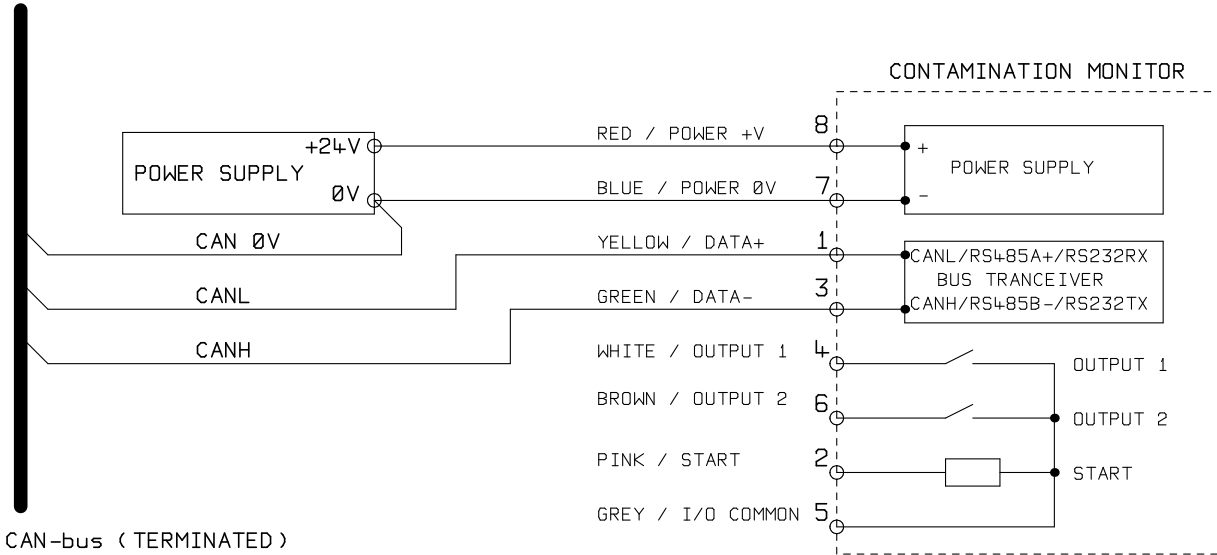

Figure 1 LPM Electrical Connection
- Connect the LPM to your CAN-bus network and provide a 24VDC power supply. See Figure 1.
The LPM requires a DC power supply and the two CAN-bus signals CANL and CANH, as shown in Figure 1. The numbers shown are the pin numbers of the circular connector that plugs into the LPM.